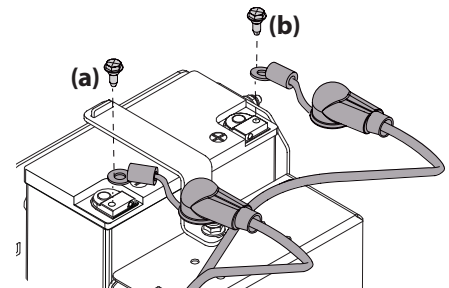

Figure 35
2. Remove the vertical mount bolt securing the black negative battery lead (a) to the negative battery post (marked NEG (-)). Move the cable away from the negative battery post. See Figure 35.
3. Remove the vertical mount bolt securing the red positive battery lead (b) to the positive battery post (marked POS (+)). Move the cable away from the positive battery post. See Figure 35.